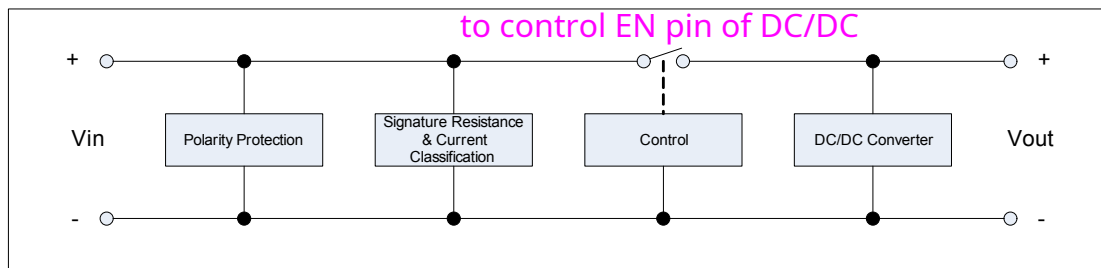

Figure 1: Building Blocks of a Powered Device (PD)
The Powered Device (PD) can be broken down into four basic building blocks as shown in Figure 1.